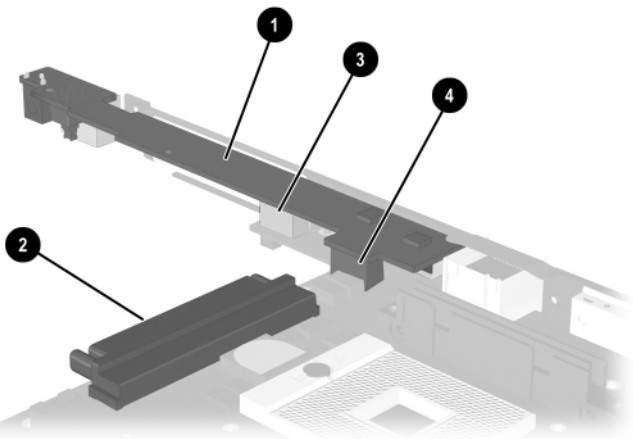

Figure 5-27. Proper Handling of the I/O Interface Board on Evo Notebook N620c and N610c Models
Figure 5-27 applies only to Evo Notebook N620c and N610c models. When handling the system board, be careful not to put stress on the I/O interface board ❶. The narrow profile of this board makes it susceptible to being damaged when mishandled. The system board should only be removed and handled using the Media Bay connector ❷. After the system board is installed in the base enclosure, apply gentle downward pressure on the I/O interface board directly above the two connectors ❸ and ❹ that connect the I/O interface board to the system board.